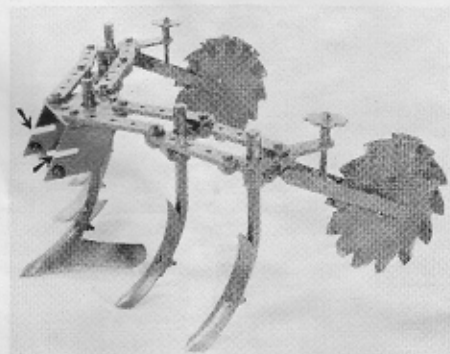

Figure 36
To secure the Rear Cultivator Tool Holder to the Rear Hitch Frame, first line up the notches, arrows in Figure 36, with the Rear Hitch Frame cross-member to which the Ball Stud is attached. Bolt the Tool Holder to the Frame with the nuts and bolts provided.
1. Attach the Braces, 1 in Figure 36, to the Rear Hitch Frame loosely, using the bolts, nuts, and lockwashers provided. Be sure the short twist on each Brace is down.
4. Place the large nut on the Ball Stud, 2 in Figure 36, and run it up to the end of the threads. Screw the Ball Stud into the hole in the cross-member on the end of the Frame. Place the second nut on the Ball Stud and lock both nuts tightly against the cross-member. Be sure the Ball Stud hangs under the cross-member and not on top of it. **NOTE:** The bottom of the Ball Stud has an opening into which will fit a 1/4-inch Allen wrench.